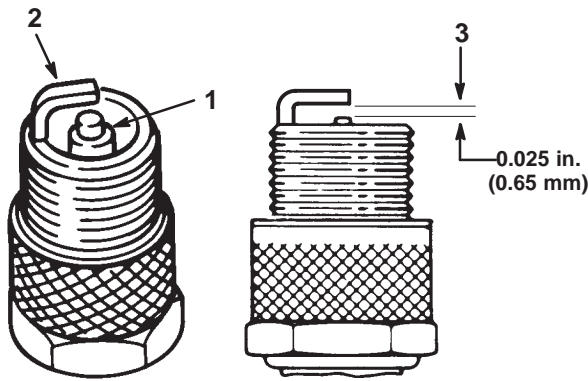

Figure 37
1. Look at the center of the spark plug(s) (Fig. 37). If you see light brown or gray on the insulator, the engine is operating properly. A black coating on the insulator usually means the air cleaner is dirty.
2. Check the gap between the center and side electrodes (Fig. 37). Bend the side electrode (Fig. 37) if the gap is not correct.